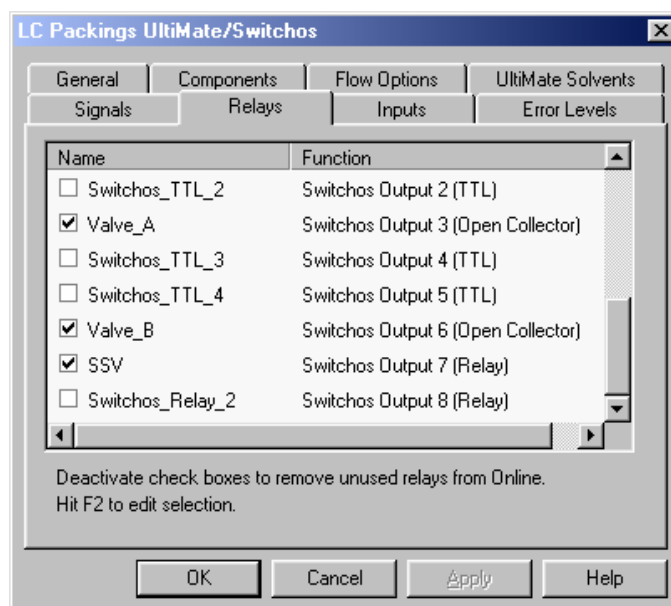

FIGURE 4-4 The UltiMate Configuration Box – Relays Tab
- a) Select the **Relays** tab of the *LC Packings UltiMate/Switchos* box (FIGURE 4-4).